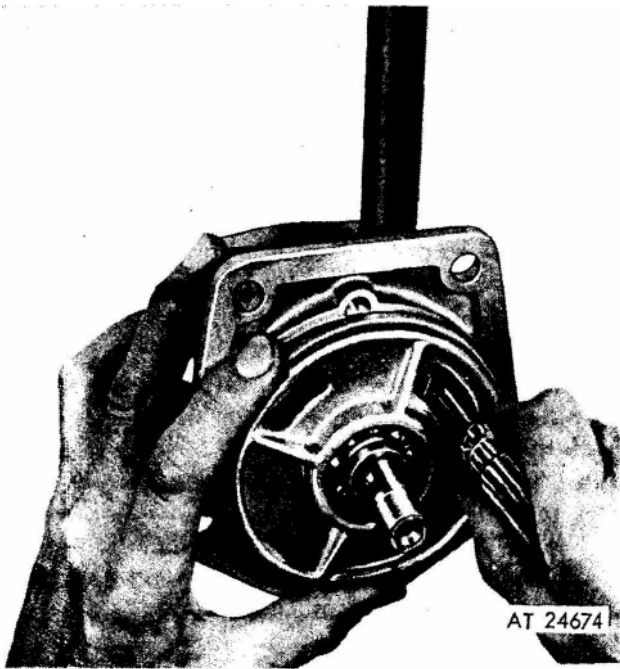

Figure 4. Removing the fork from the operating shaft.
4. Lift up on the weight shaft until there is enough clearance for a 5/16" socket wrench to be placed on the screws that hold the fork to the operating shaft (fig. 4). Then remove the two screws and washers.